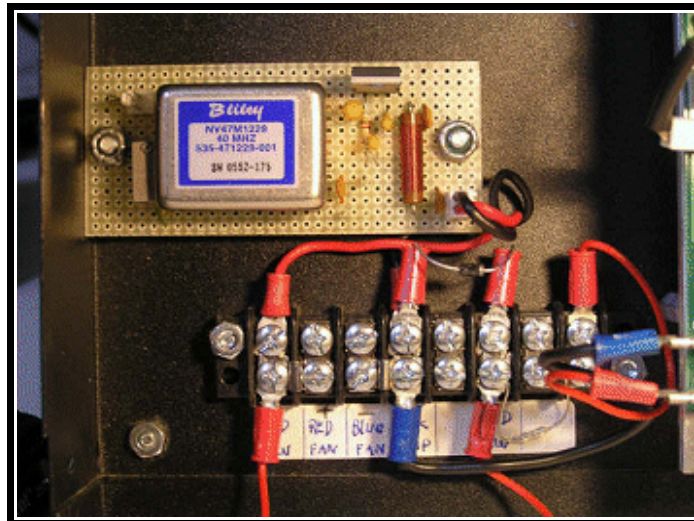

figure 5
Select a location for the OCXO board behind the mic. connector and terminal block. Refer to figure 5 for a picture of where I mounted the prototype board in my SDR-1000.
- Once the OCXO board is mounted, we need to connect the power leads and the oscillator cable. Connect the power leads at the same location as the fan is connected. Refer to figure 5. **BE CAREFUL** to connect the dark lead to the negative screw (where the blue lead goes). Then connect the light lead to the positive screw (where the red lead goes). You **MUST** observe polarity and connect it correctly or you will damage the OCXO board. The power connections from the SDR-1000 to the OCXO 12Vdc regulator is not reverse polarity protected. Please **BE CAREFUL**. If the power is not already plugged into P2, do so now observing the keyed connector.